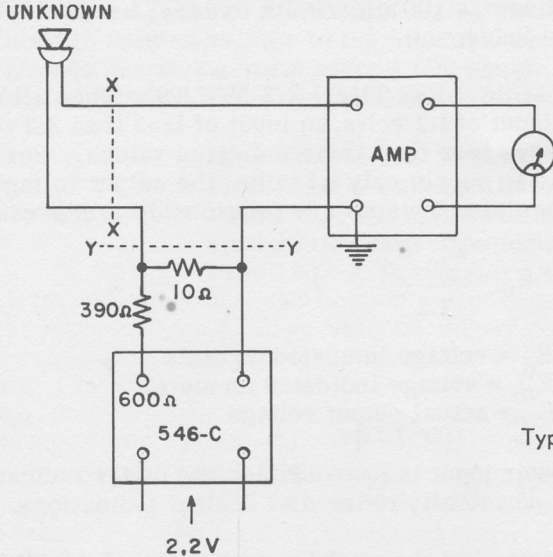

Figure 2.
2.4.3 INSERT-VOLTAGE METHOD. Several measurement techniques using the insert-voltage method can be devised, but the following example will serve to demonstrate the principles involved. Connect the source of the voltage to be measured, the Microvoltage, an amplifier, and an external meter as shown in Figure 2. Set the Microvoltage dial to zero and supply the unknown voltage to the external meter, noting the deflection. Then, with the unknown remaining in circuit but not supplying any voltage, vary
For the circuit arrangement shown in Figure 2, it is essential that the unknown be operated ungrounded, so that the 10-ohm calibration resistor is not shorted by multiple grounds. Any stray capacitance to ground should be kept sufficiently low so that the shunting effect on the 10-ohm resistor is negligible.